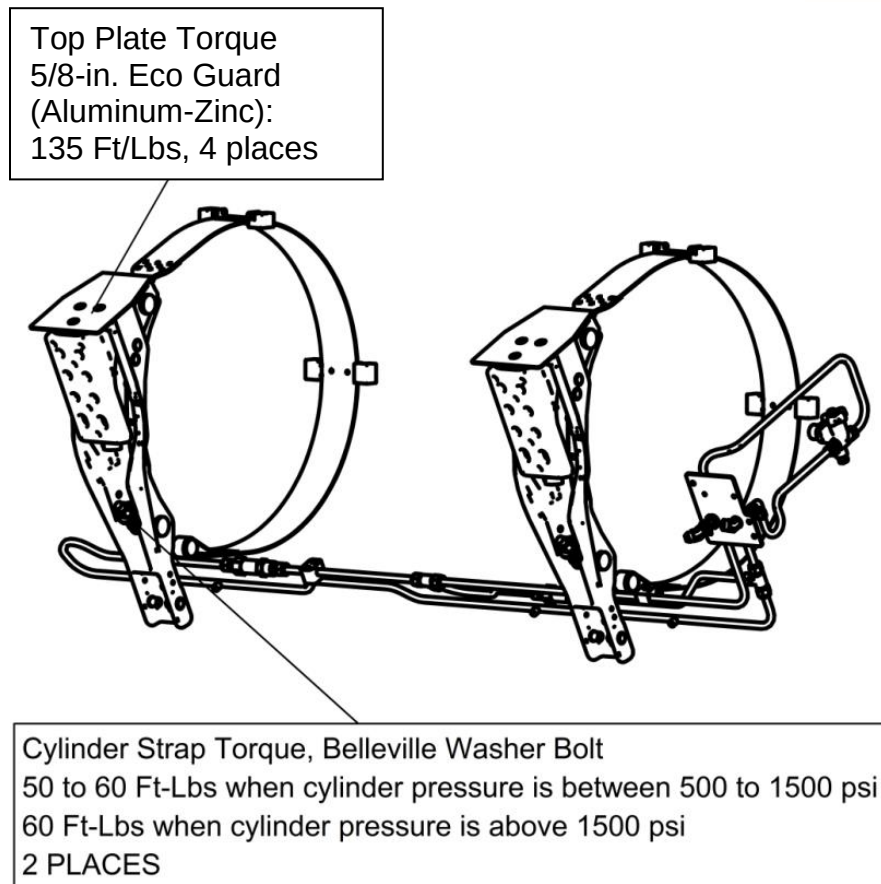

Figure 18. Torque specifications for top plate bolts and Belleville washer stack.
8. Torque specifications, see Figure 18: